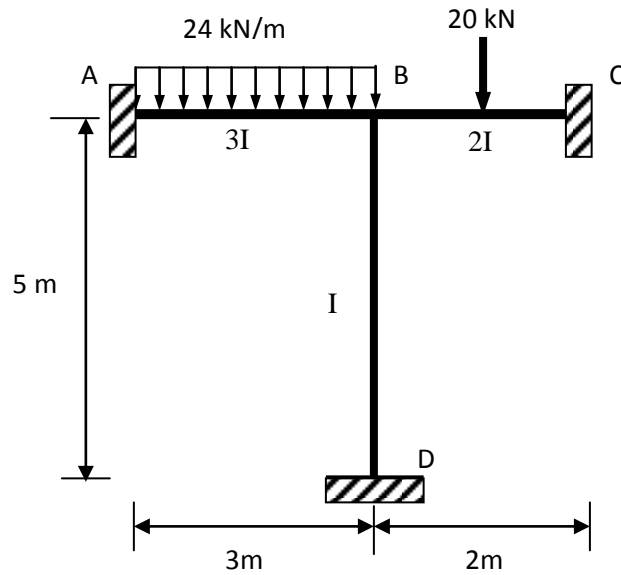

Figure 5
3. (a) Figure 5 shows a frame carrying a uniformly distributed load of 24 kN/m along span AB and point load of 20kN at mid span of BC. Supports A, C and D are fixed. Each member has the value of I as shown in Figure 5. Determine the internal moments at all joints A,B,C and D of the frame by using Slope Deflection Method. Then sketch the deflected shape and bending moment of the frame.
- (b) Explain with the aid of sketches, behaviour of the frame as shown in Figure 5, in terms of bending moment and deflected shape, if point load 20kN at the midspan of BC is removed.